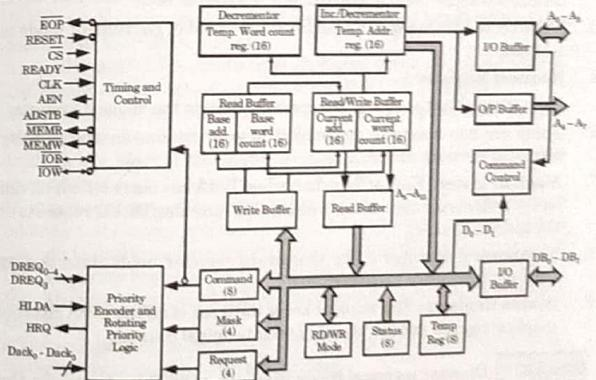

Fig. 5.2.1. Block diagram of 8237.
- i. The internal block diagram is shown in Fig. 5.2.1.